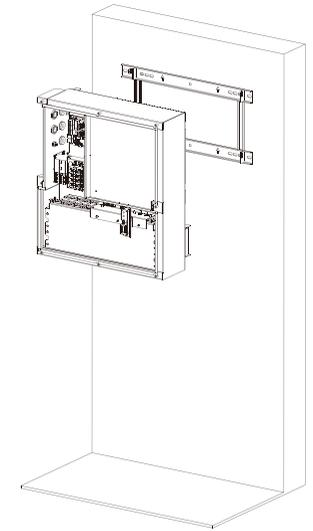

Figure 2.11 Install Storion-SMILE-B3
Step 6 Install Storion-SMILE-B3 on the wall bracket, as shown in Figure 2.11.